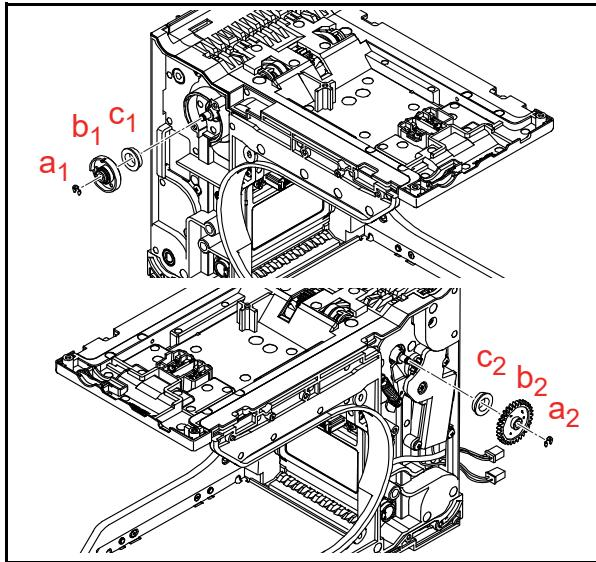

**Figure 4-55 Flap Home Board Removal (RQ Frame Unit) 3**
4. Unplug the single (1) Connector (Figure 4-55 a).
5. Remove the single (1) Screw (Figure 4-55 b).
6. Remove the Flap Home Board (Figure 4-55 c).